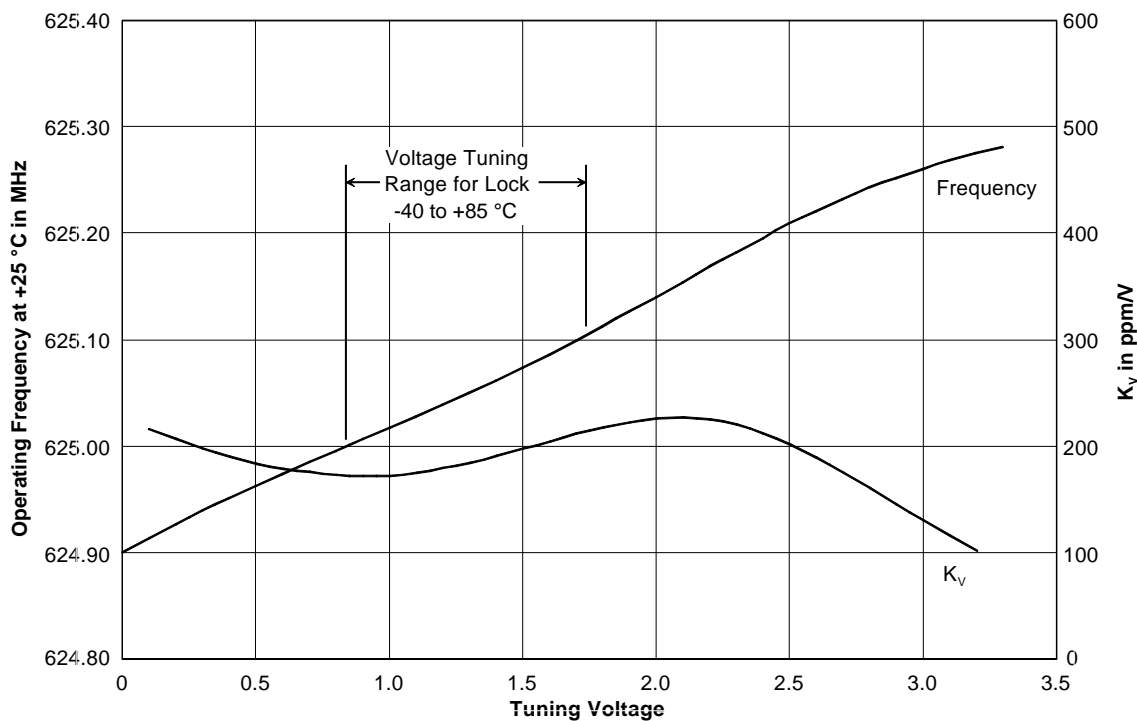

Figure 4
8. See Figure 4.
Controlled Tuning Characteristics - the OP4004B voltage tuning constant, K_V , is bounded between 140 and 300 ppm/V under locked conditions for reference signals with ± 100 ppm or better stability over the OP4004B's full operating temperature and supply voltage range. This allows a PLL based on the OP4004B to be designed with a well-controlled loop bandwidth and damping factor, avoiding problems such as jitter peaking, etc. The voltage tuning characteristic of the OP4004B is monotonic from 0 to 3.3 V, supporting reliable acquisition of phase lock. Figure 4 shows typical OP4004B tuning characteristics.
The frequency tuning of the OP4004B is characterized over a voltage range of 0 to 3.3 V. The tuning voltage applied to the OP4004B should be limited to this range. Figure 4 shows the typical locked tuning range for operation over -40 or $+85$ °C. The frequency shift of a quartz SAW frequency control device with temperature has the shape of an inverted parabola, with the highest frequency occurring around $+25$ °C. At both -40 and $+85$ °C, there will be a 170 ppm downward shift in the frequency of the SAW device compared to $+25$ °C. Tuning to compensate for this temperature shift is the same as tuning 170 ppm higher at $+25$ °C. This is well within the tuning range of the OP4004B, as shown in Figure 4. Note that the voltage tuning constant, K_V , is bounded between 140 and 300 ppm/V under locked conditions for any temperature within the OP4004B's specified operating range.